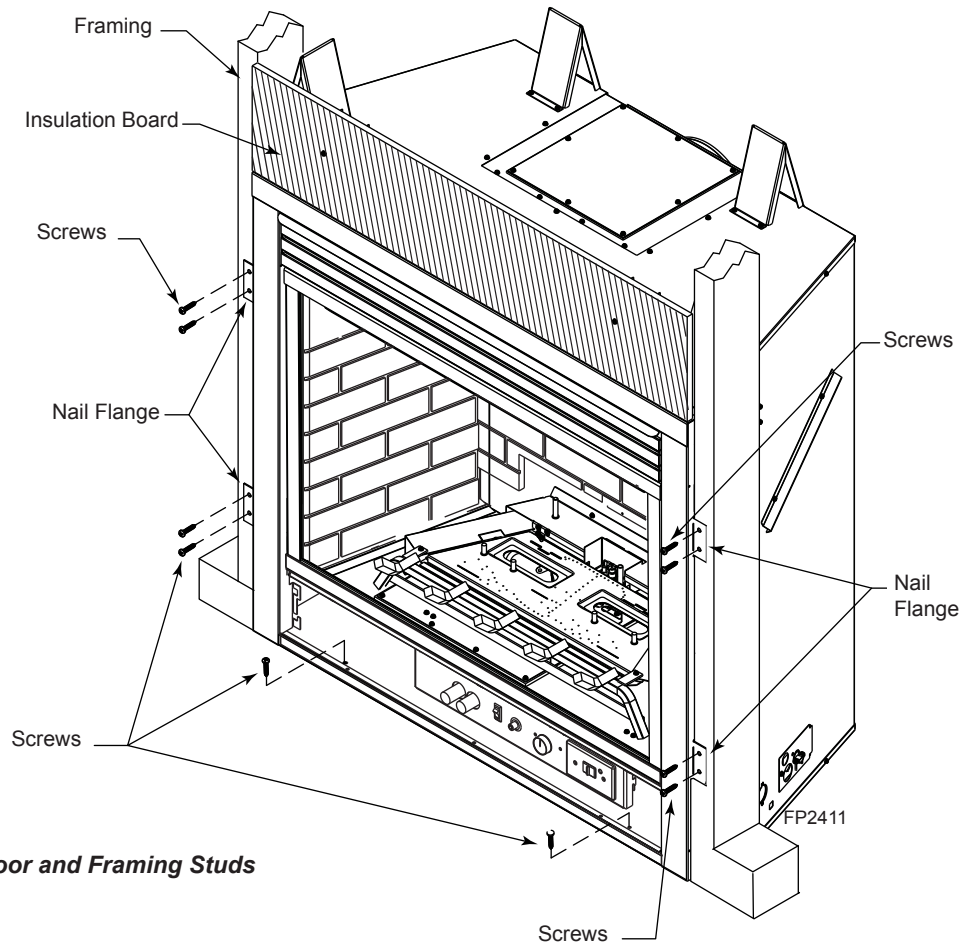

Figure 6 -
The fireplace must be secured to the floor and/or to framing studs as shown in *Figure 6*. Use two (2) wood screws or masonry/ concrete screws to secure fireplace to the floor. Use four (4) screws to attach fireplace to framing. The side brackets or nailing flanges are designed to accommodate two thickness of wall boards (1/2" or 5/8").